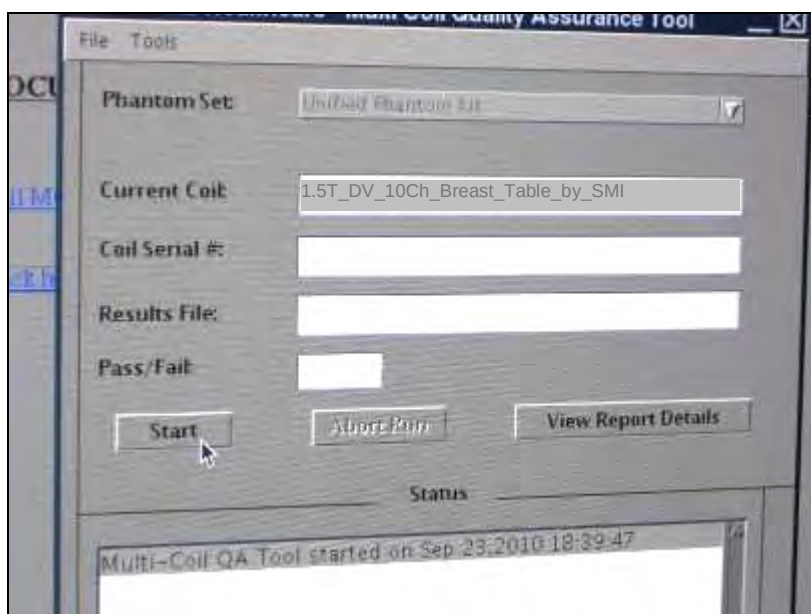

Figure 67: Screen Capture – MCQA Tool Start
6. Do not start a new patient; open the Tools box, and start MR Service Desktop. Select the top tab marked 'Image Quality.' In the side menu, select 'Multi-Coil QA Tool', then 'Click here to start this tool.' The program shown in Figure 67 will start: